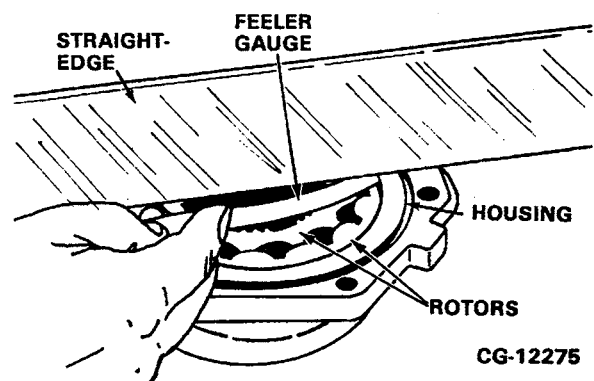

**Figure 9.9. Check Outer Rotor to Housing Clearance**
3. Check the radial clearance between the outer rotor and the pump housing using a feeler gauge as shown in **Figure 9.9**. Refer to "SPECIFICATIONS". If radial clearance exceeds the specifications, check housing to rotor clearance (see step 4).